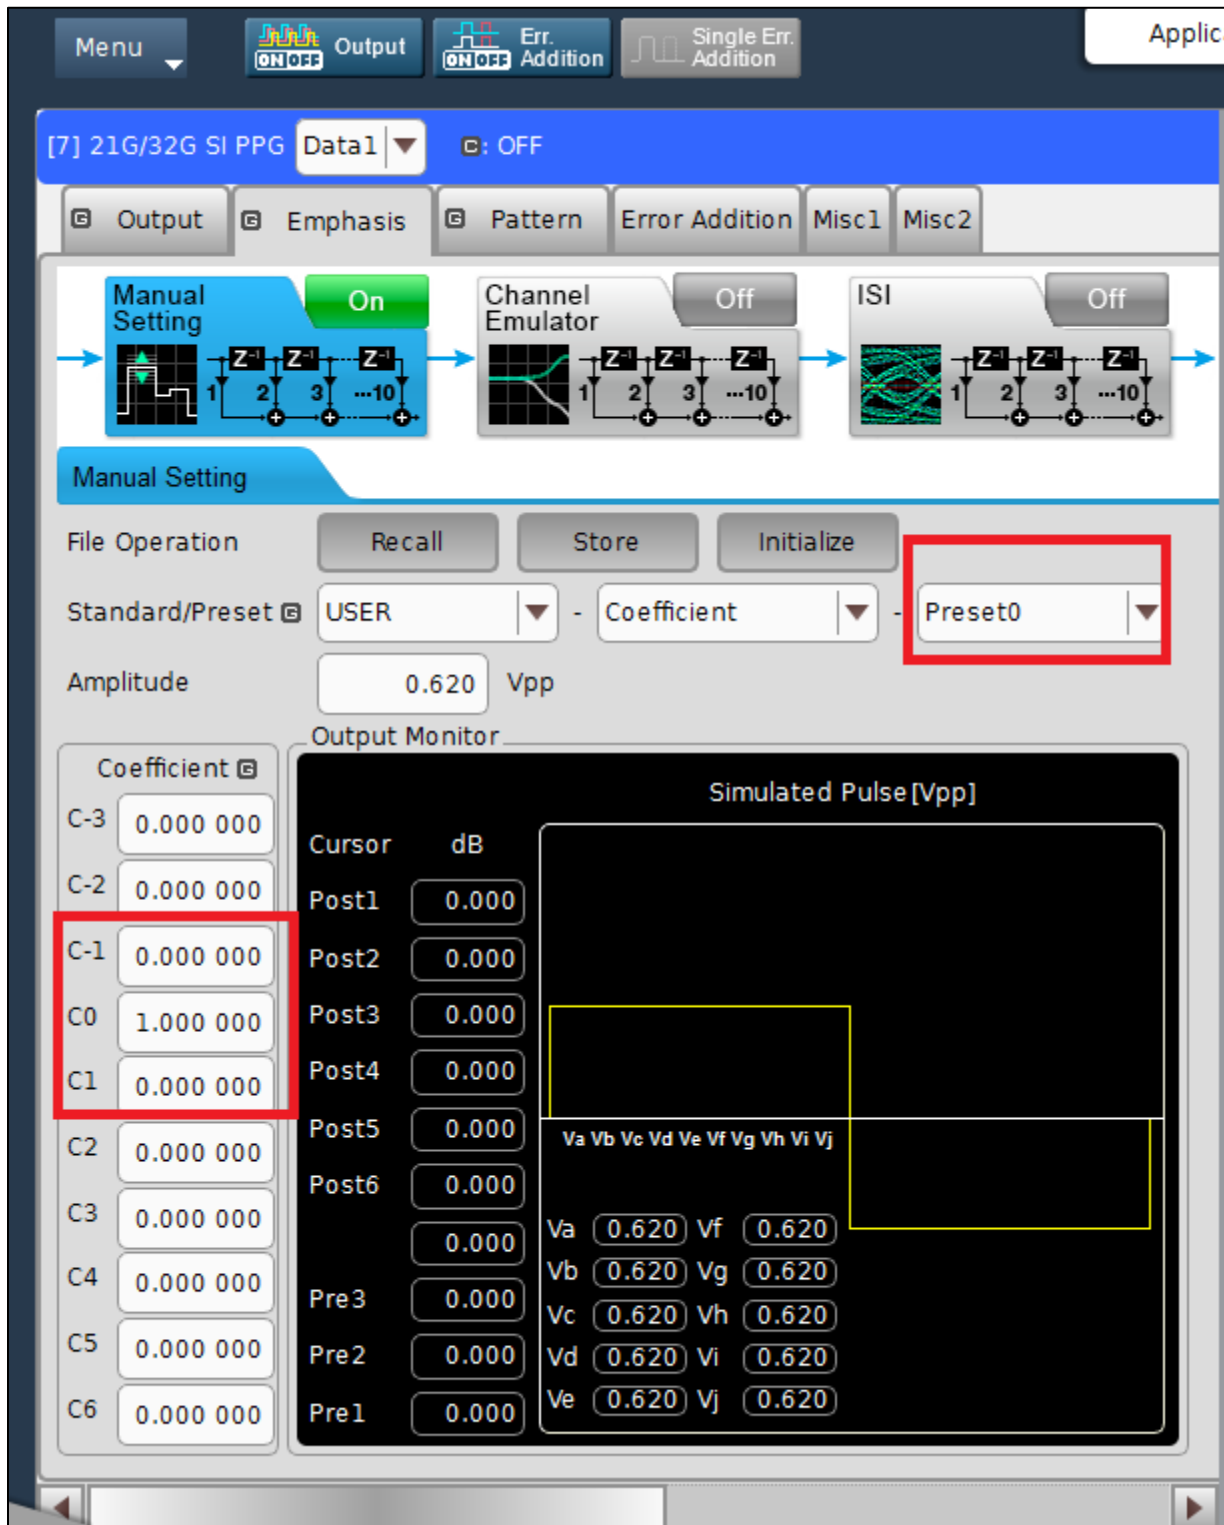

FIGURE 80. 4TAP EMPHASIS CH1 INTERFACE
- In 4Tap Emphasis Ch1 Menu, create 15 Presets with coefficients which match the Table in the DisplayPort 2.1 Specification. See Figure 80 below.